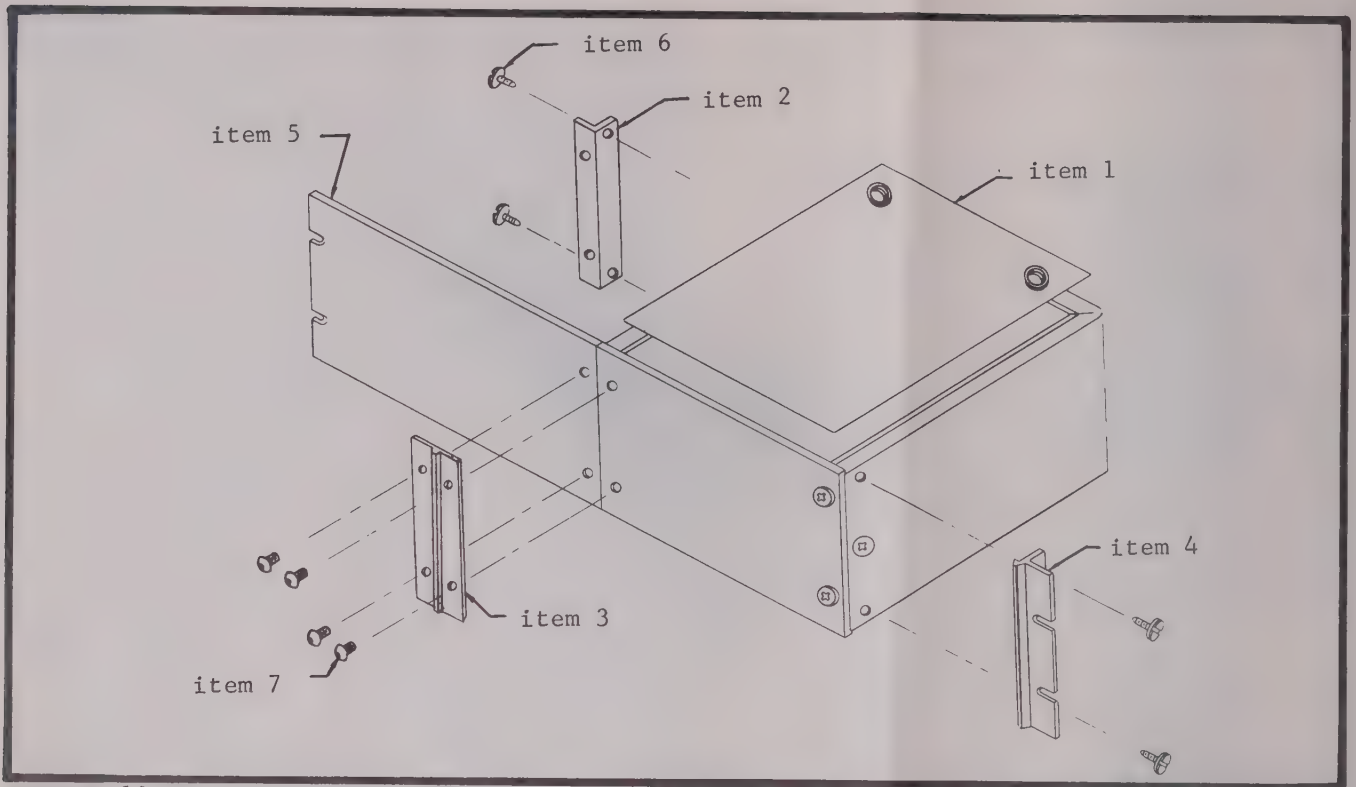

FIGURE 10. Exploded View of Model 4003A Rack Mounting Kit. See Table 10 also.
b. Procedures. Remove the wrap-around cover on the Picoammeter by removing the two corner screws at the bottom of each side. Add the rack mounting parts to the Picoammeter as shown in Figure 10. Attach in this order: cover (1), rack angle (4), panel support angel (2); rack panel adapter (5), and chassis connecting plate (3).